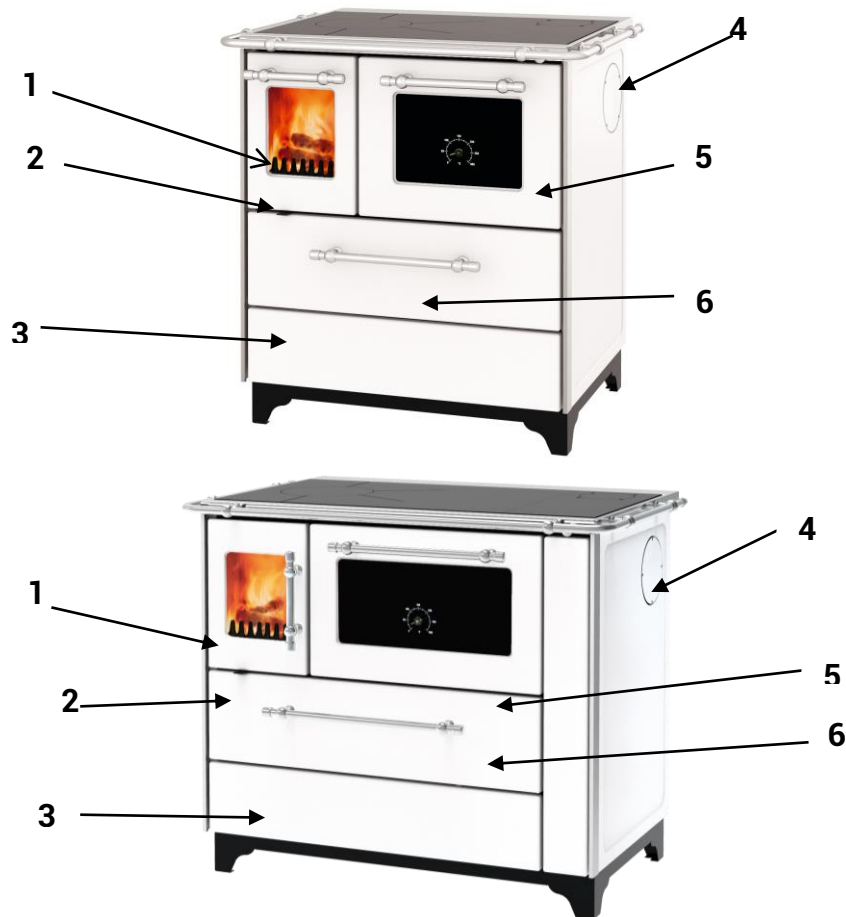

FIG. 1
The primary combustion air, thereby the capacity of heating of the stove is determined with the primary combustion air. This air is regulated by means of the sliding handle for primary air on the ashtray bracket (figure 1 position 2).
3.4. OVEN DOOR (Figure 1, Position 6)